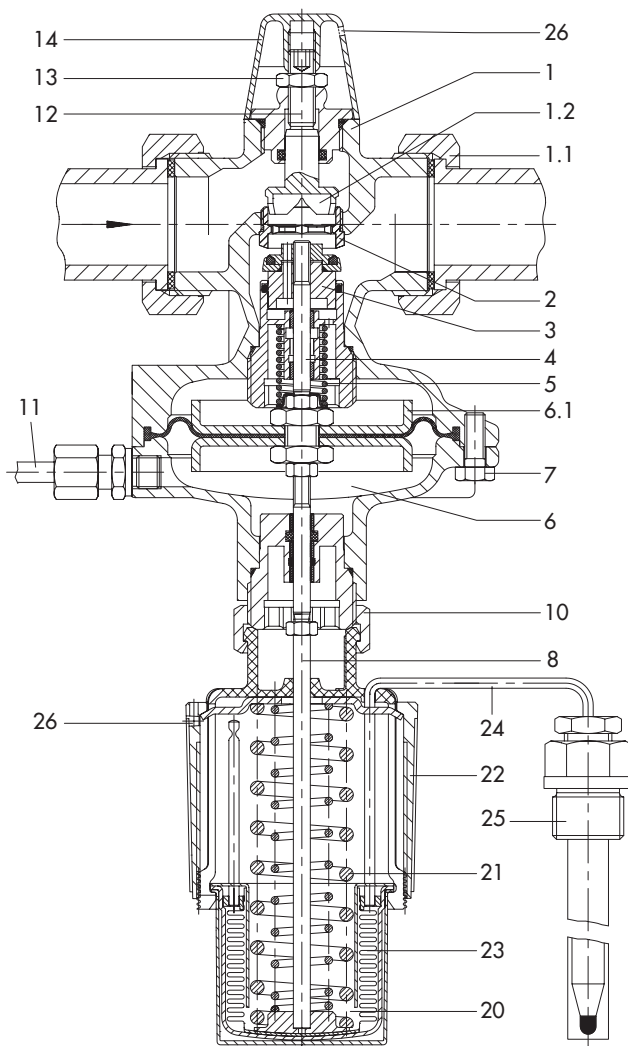
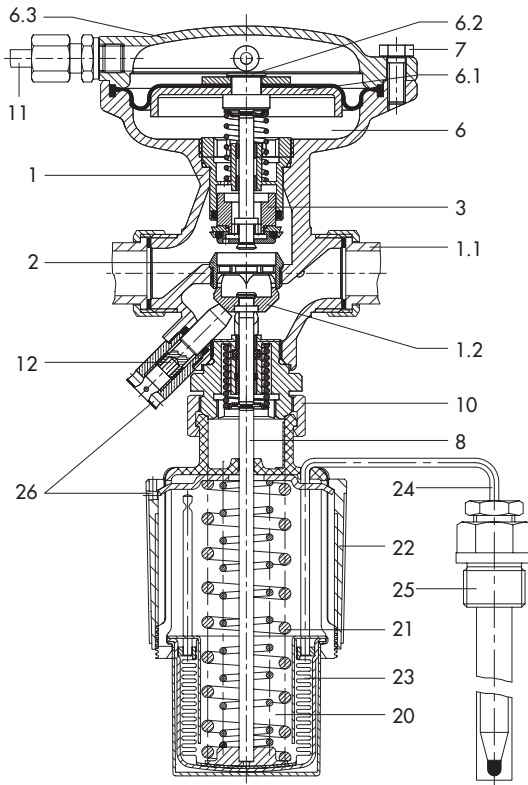

Fig. 9-1: Functional diagram of regulator, DN 32 to 50
Fig. 9-2: Functional diagram of regulator, DN 15 to 25
Legend for Fig. 9-1 and Fig. 9-2
- ➔ See Fig. 9-1 and Fig. 9-2